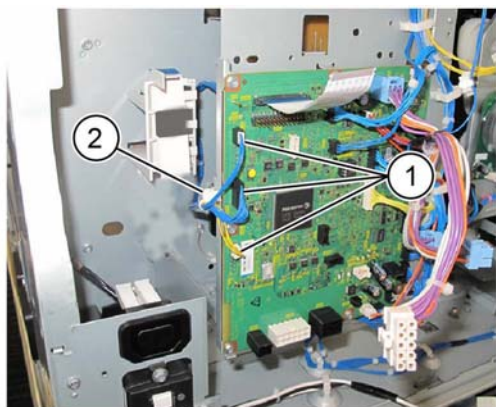

Figure 2 Connectors
5. Disconnect three connectors (1), then release the harness from the clamp (2), Figure 2.